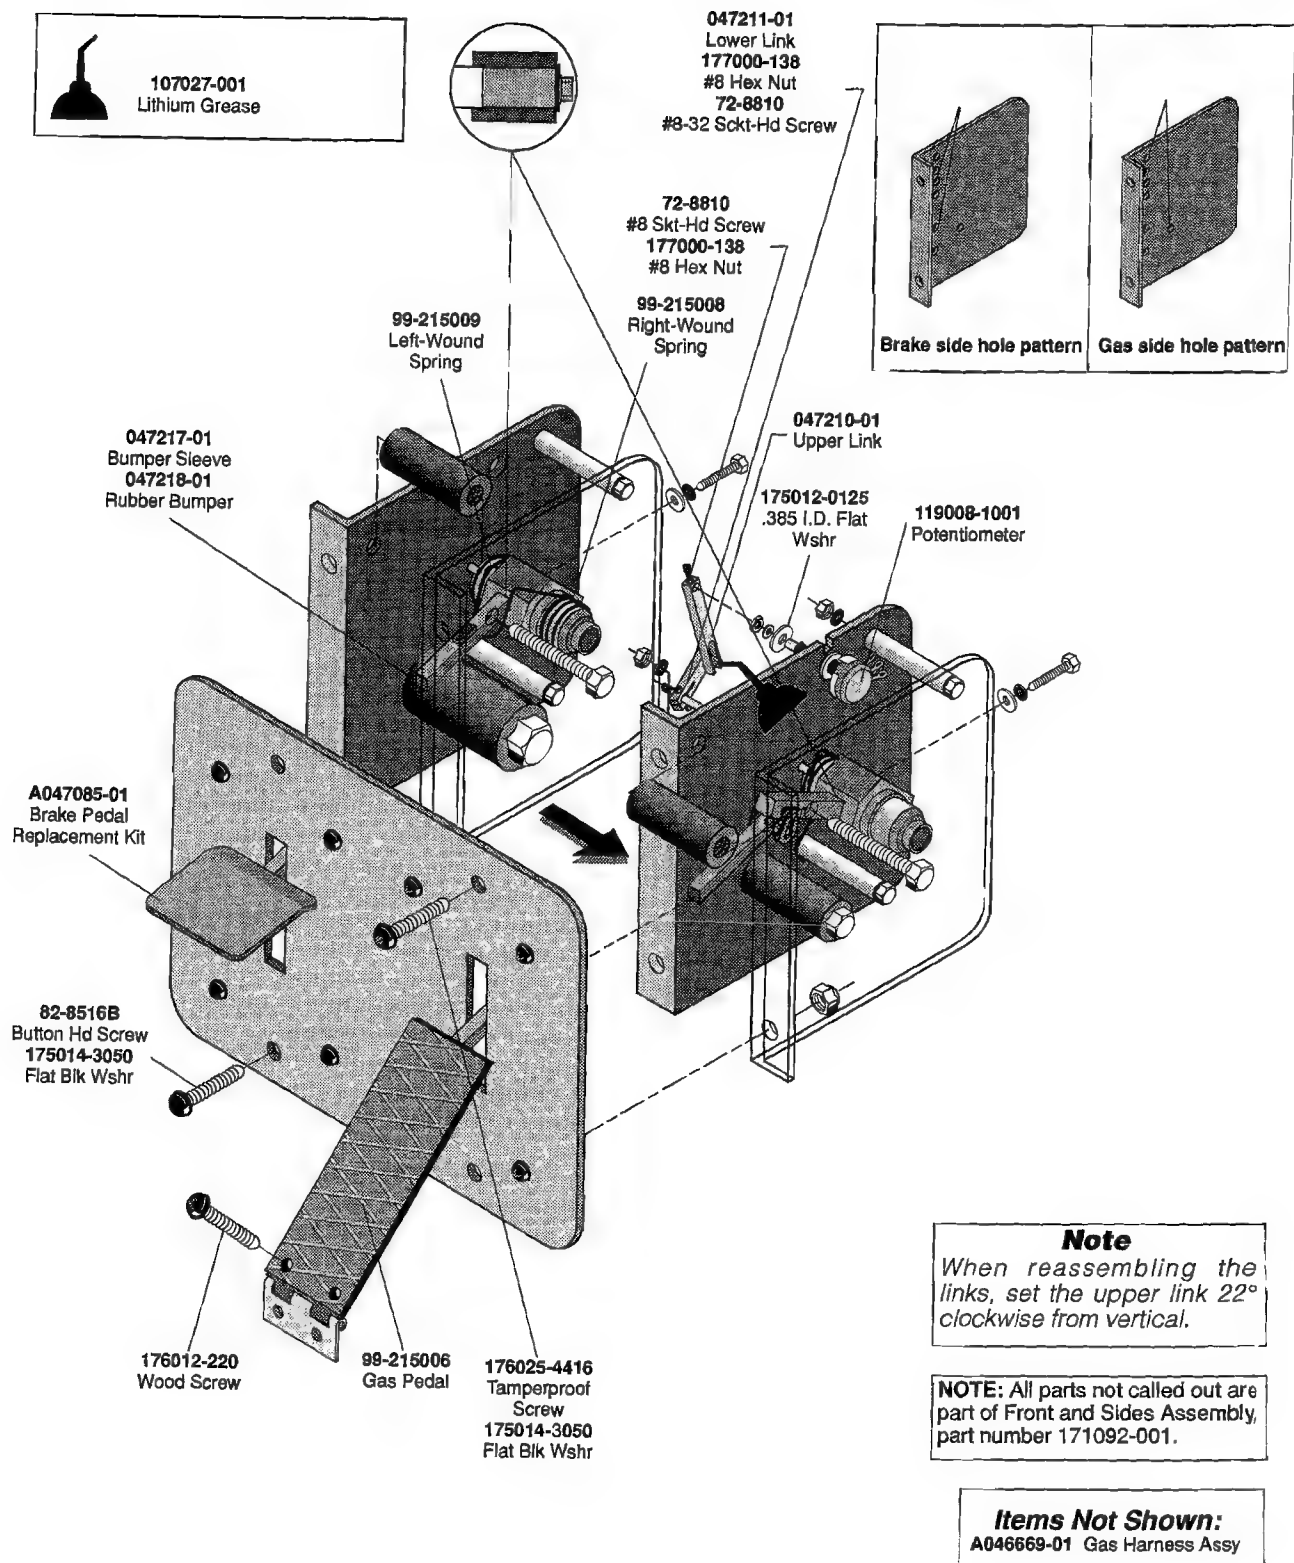
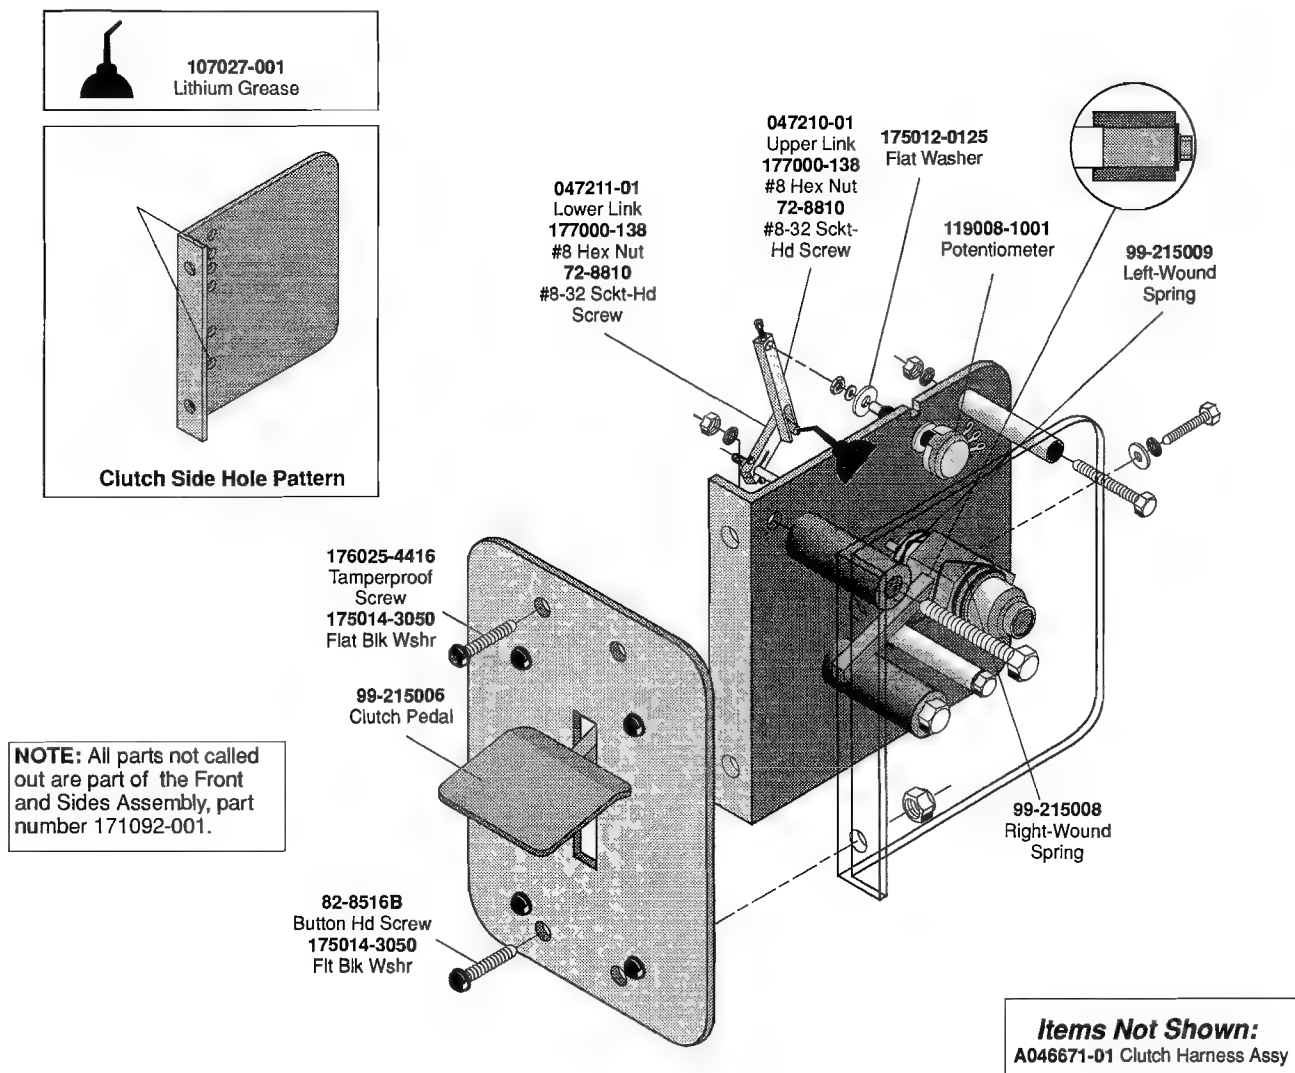

Figure 3-4 Maintaining the Brake and Gas Pedal Assembly
Figure 3-6 Maintaining the Clutch Pedal Assembly
See Figure 3-4 for the brake and gas pedals and Figure 3-6 for the clutch pedal.
2. Take the pedal assembly out of the simulator by removing the two button-head screws and two tamperproof screws and washers holding the assembly in the cabinet. Unscrew the two screws holding the gas pedal to the floor if you are removing the gas and brake pedal assembly. See Figure 3-4 for the brake and gas pedals and Figure 3-6 for the clutch pedal.
1. Before you put the pedal in the assembly, turn the pivot shaft so the hole in the pivot shaft with the square cut-out around it is pointing towards the front of the assembly. See the detail in Figure 3-4.
2. Take the pedal assembly out of the simulator by removing the two button-head and two tamperproof screws and washers holding the assembly in the cabinet. If you are working on the brake and gas assembly, remove the screws holding the gas pedal to the floor. See Figure 3-4 for the brake and gas pedals and Figure 3-6 for the clutch pedal.
10. Assemble the shafts in the pattern shown in Figure 3-4 for the gas or brake pedal or Figure 3-6 for the clutch pedal. If you have disassembled the brake pedal, be sure to put the large brake bumper and bumper shaft on the bottom.
12. Before you put the pedal in the assembly, turn the pivot shaft so the hole in the pivot shaft with the square cut-out around it is pointing towards the front of the assembly. See the detail in Figure 3-4.
2. Take the pedal assembly out of the simulator by removing the two button-head screws and two tamperproof screws and washers holding the assembly in the cabinet. Remove the two screws that hold the gas pedal to the floor of the simulator. See Figure 3-4 for the brake and gas pedals and Figure 3-6 for the clutch pedal.